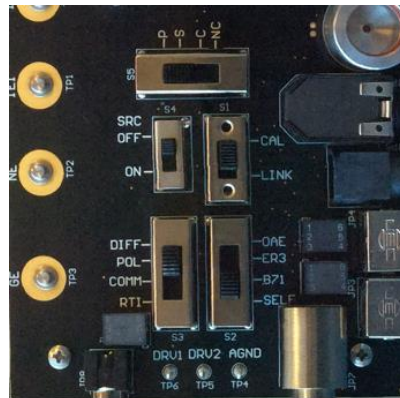

Figure 5
2. Set S1 to CAL, S2 to SELF, S3 to DIFF, S4 to OFF, and S5 to P. (Figure 5)